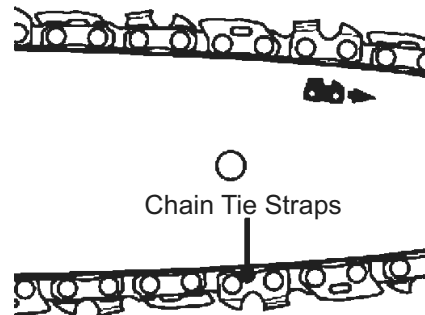

Figure 6
2. Use the flat end of the Hex Wrench to turn the chain tension screw clockwise until the chain tie straps just touch the bottom edge of the guide bar. See Figure 6, left.